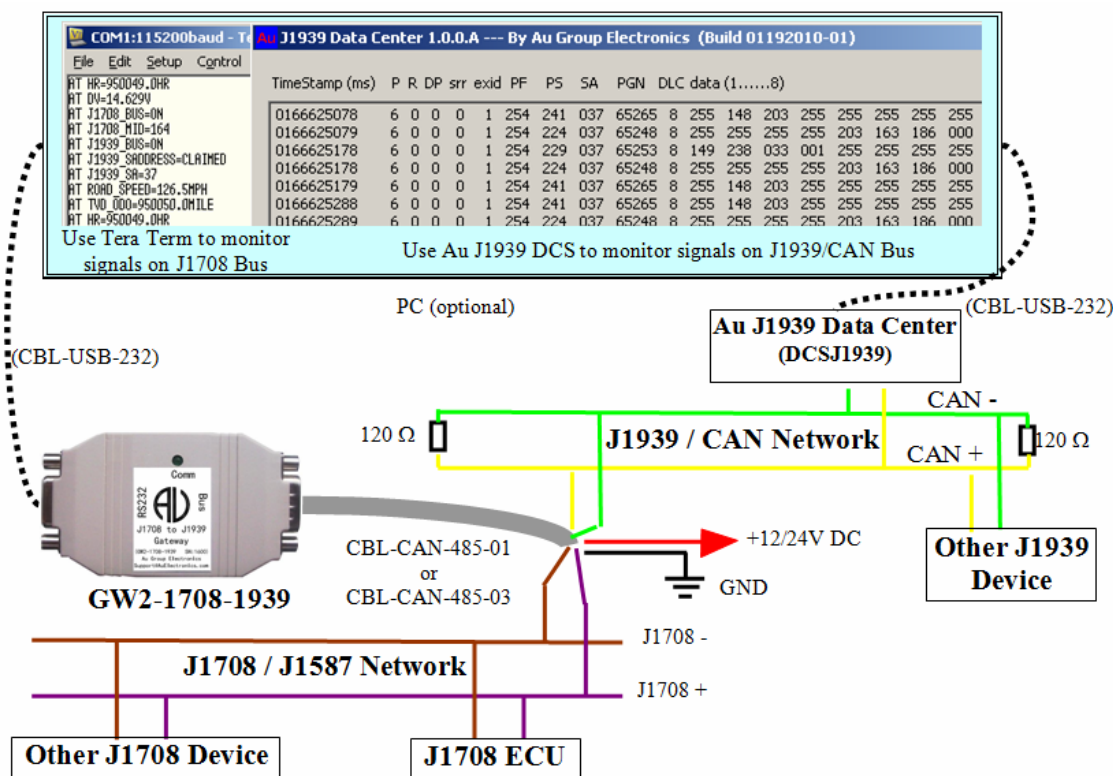
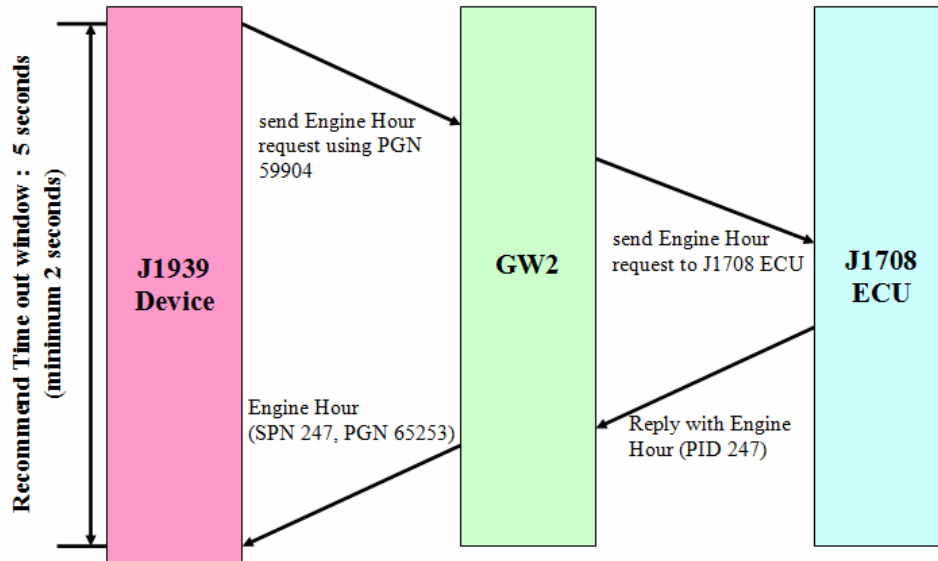

Figure 3
Figure 4
- Following is an example of how GW2 (Au J1708 to J1939 gateway) was used in the lab environment, Au J1939 Data center captured the PGN 65265, 65248, 65253 on J1939 / CAN network, the result is displayed on Au J1939 Data Center PC GUI. optional PC was used for demonstration purpose (Figure 3). Two 120-ohm terminal resistor must present on each end of the J1939 network backbone.
- On Figure 3, the J1708 ECU broadcasts "road speed" and "total vehicle distance" signals on J1708 network. Au GW2 receive these two parameters (road speed, odometer signals) on J1708 network. Then it will perform the following:
- On Figure 3, A J1939 device (Au J1939 Interpreter) was used to send out Engine Hour request command to J1939 network (using PGN 59904), once GW2 receive the request, it will send the request to J1708 ECU, then J1708 ECU will reply with the current Total Engine Hours and send it over to J1708 network (PID 247). GW2 then convert Total Engine Hour to SAE J1939 Engine Hour and transmit SPN 247 (PGN 65243) on J1939 / CAN network. Engine Hour data flow is illustrated in Figure 4.